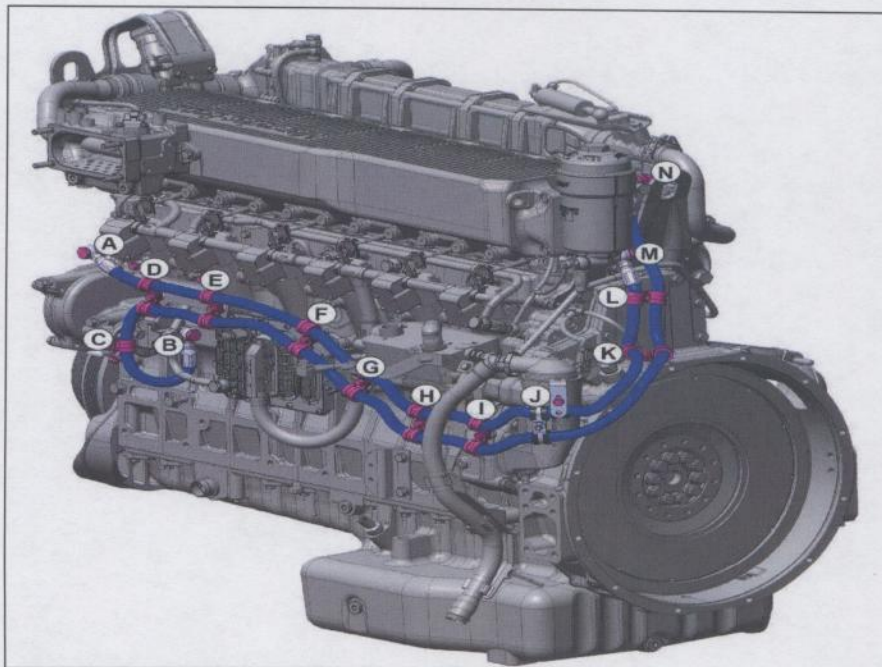

Figure 7 Fuel Line Mounting Points
58. Figure 7 is a diagram showing the low pressure fuel lines routing. The positions are labeled by letters and will correspond with the directions of how to install the lines onto the engine. Follow the letters in the order they are listed.